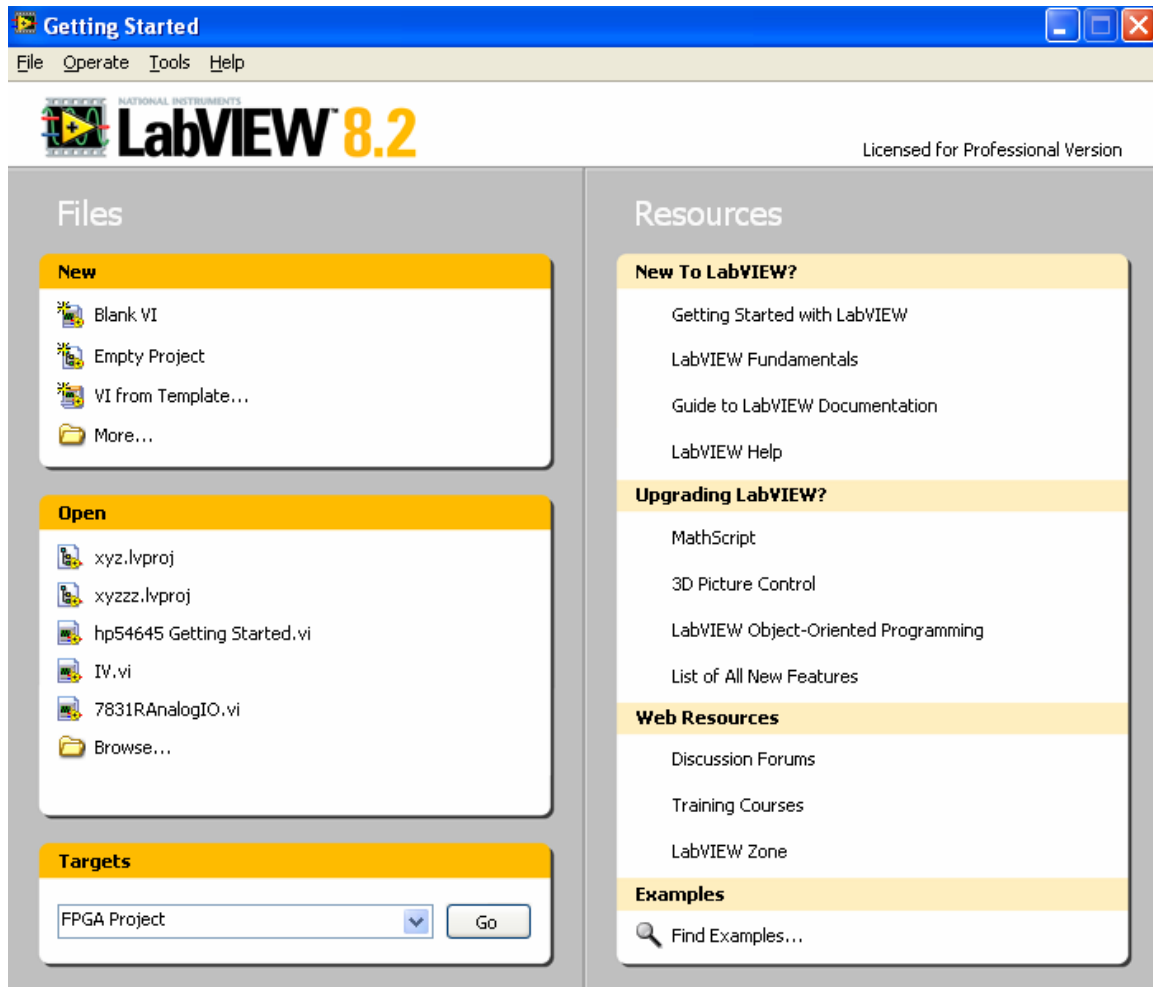

Figure 5. LabVIEW startup screen
3. Select Start → Programs → National Instruments → LabVIEW 8.2 → LabVIEW to start LABVIEW. Figure 5 will pop up.